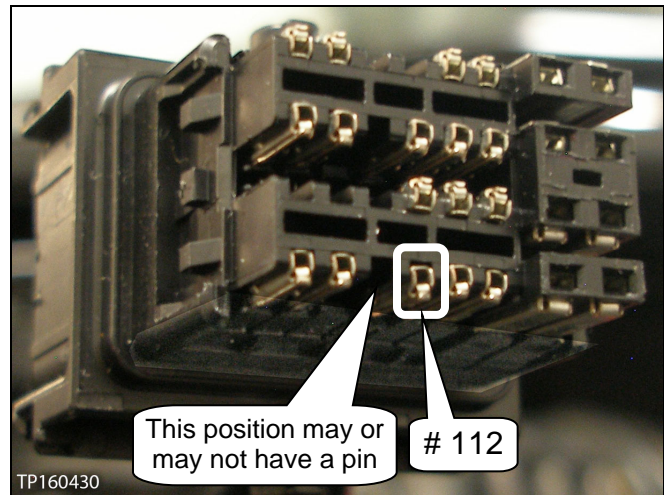

Figure 21
19. Install the new terminal into pin position # 112 in connector E16 (Figure 21).